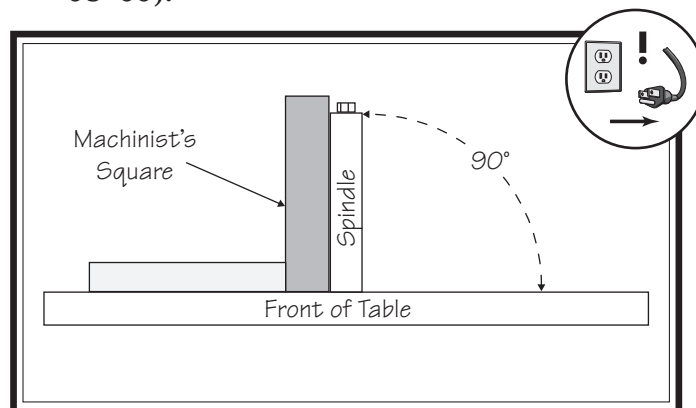

Figure 98. Illustration of using machinist's square to square spindle to table.
5. Position machinist's square against spindle and table to check squareness (see **Figures 98–99**).